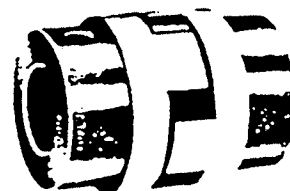

Figure 4
4. Disconnect coupling between pump and driver. Note: "Spider-Insert" couplings, as shown in Fig. 4, need not be disconnected.